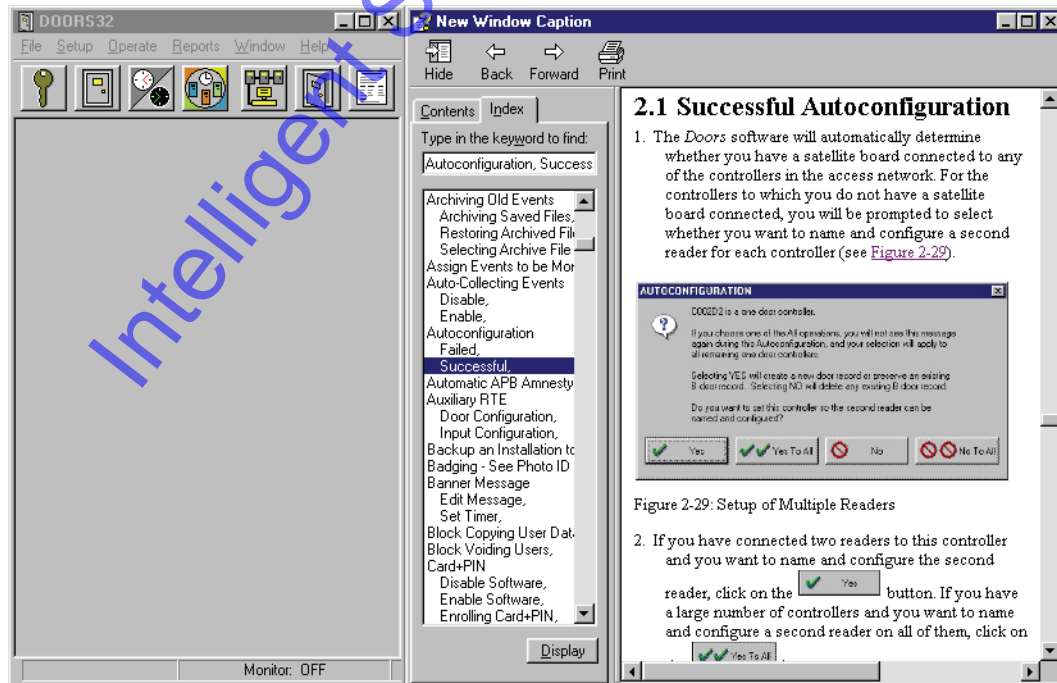

Figure 1-15: Split Screen Displaying Both *Doors* and Online Help
*NOTE: When using online help, you may consider resizing the *Doors* program window to take up half of the computer screen and then resizing the online help to take up the other half of the computer screen (see Figure 1-15). This allows you to jump back and forth between the program and the online help, tracking down assistance for nested items.*